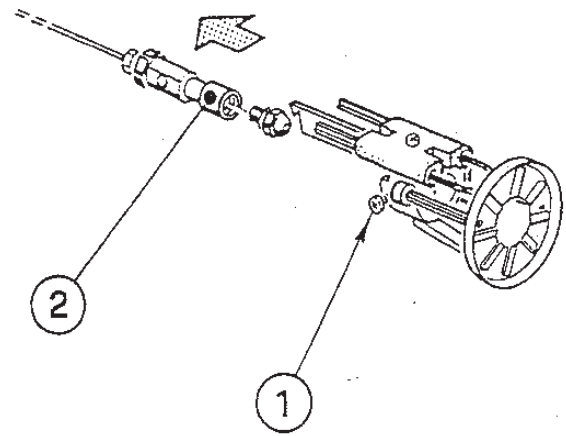

Figure 6: Nozzle Replacement
b. **Nozzle Replacement**, refer to Figure 6.
- i. Remove the NOZZLE ADAPTER (2) from the DRAWER ASSEMBLY by loosening the SCREW (1).